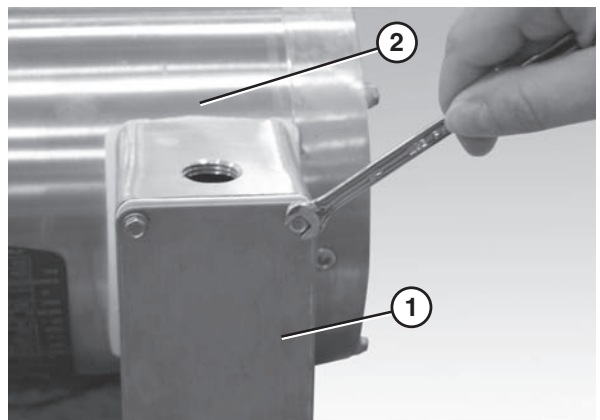

Figure 19
1. Loosen the screws and remove the cover (Figure 19, item 1) from the junction box located on the side of the motor (Figure 19, item 2).